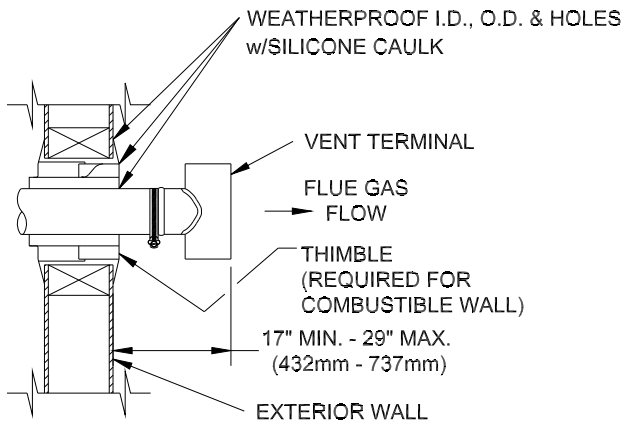

Figure 7-3: Tee Terminal
- In general, the top of the vent terminal must be at least 4 ft. below eaves, soffits, and other overhangs. If the overhang is unventilated and if the terminal can extend beyond the overhang while meeting the stick-out requirements shown in Figure 7-3 or 7-4, this vertical clearance can be reduced to as little as 12 in. See Figure 7-9c. Note that flue gas condensate will form under such overhangs and construction in this area must be appropriately protected.
- Terminal must be at least 12 in. from an inside corner. Exception: if window and/or air inlet is within four (4) feet of an inside corner, then vent terminal must be at least six (6) feet from adjoining wall of inside corner.